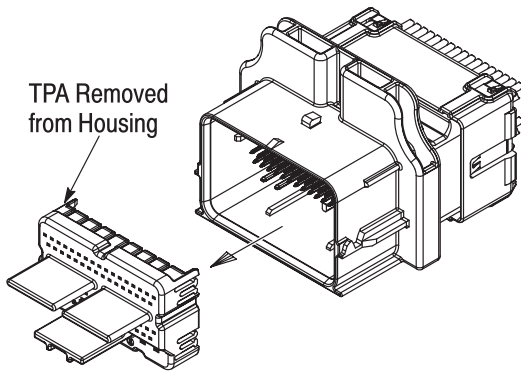

Figure 11
1. Grasp the scoop ribs, and pull the TPA out of the housing of the cap connector. See Figure 11.